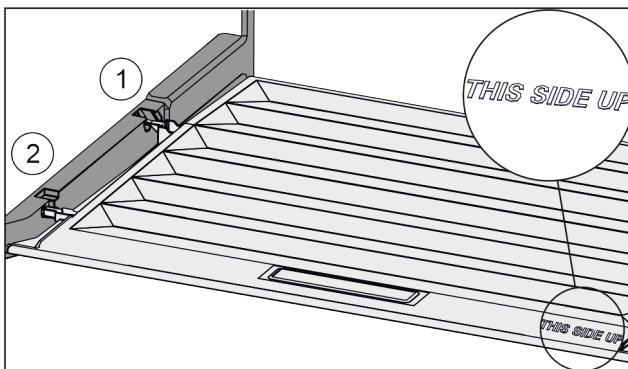

Fig. 136
- ▶ Insert the lip of the cover over the opening of the rear bracket Fig. 136 (1) and click into place Fig. 136 (2).